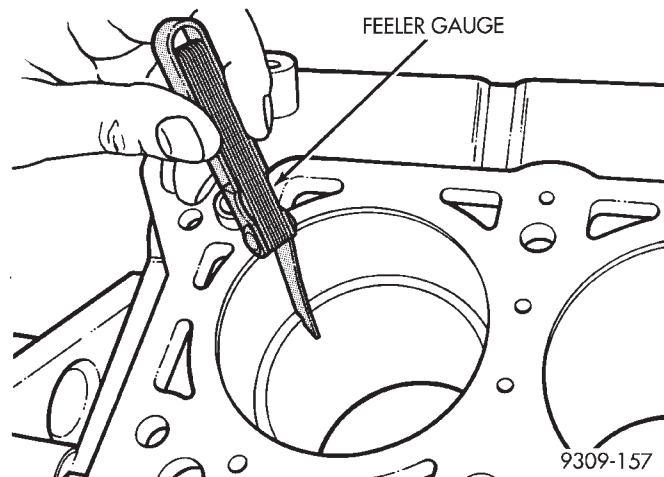

Fig. 6 Check Gap on Piston Rings
(1) Wipe cylinder bore clean. Insert ring and push down with piston to ensure it is square in bore. The ring gap measurement must be made with the ring positioning at least 12 mm (0.50 inch.) from bottom of cylinder bore. Check gap with feeler gauge (Fig. 6). Refer to Piston Ring Specification Chart.